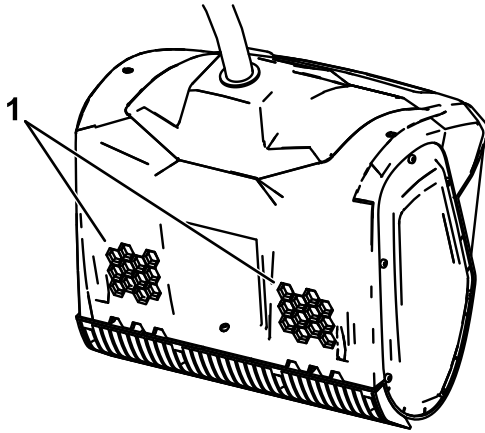

Figure 6
1. Ensure that the vents on the back of the machine are clear of any snow or ice (Figure 6).